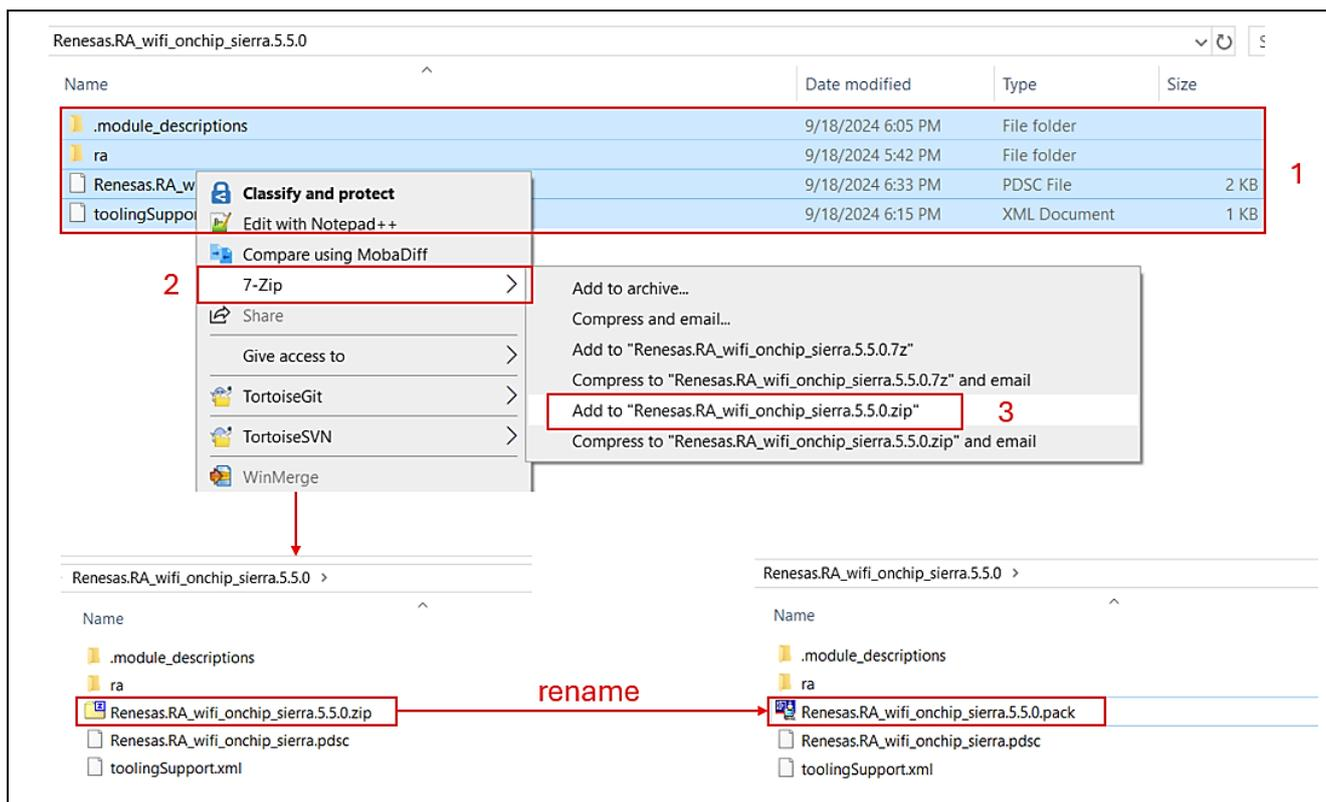

Figure 11. Pack Creation from the Zip File for the New Wi-Fi Driver Pack
- After all the changes are in place, you need to create a zip file using the 7-zip utility. The method for creating the `.zip` file and later renaming as `.pack` file is shown in **Figure 11**.